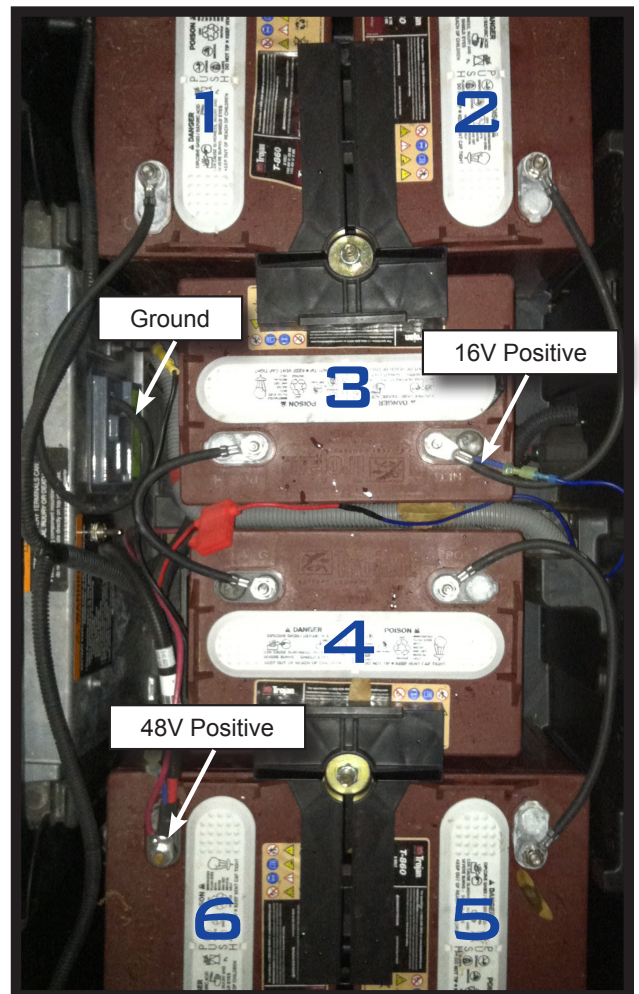

Figure 2
3. The 48 volt positive connection is located on battery #6 as shown in Figure 2. It is the short blue wire with spade terminal. **ONLY USE THIS CONNECTION IN CONJUNCTION WITH A 48 VOLT TO 12 VOLT REDUCER/CONVERTER OR BULB FAILURE WILL RESULT!!**